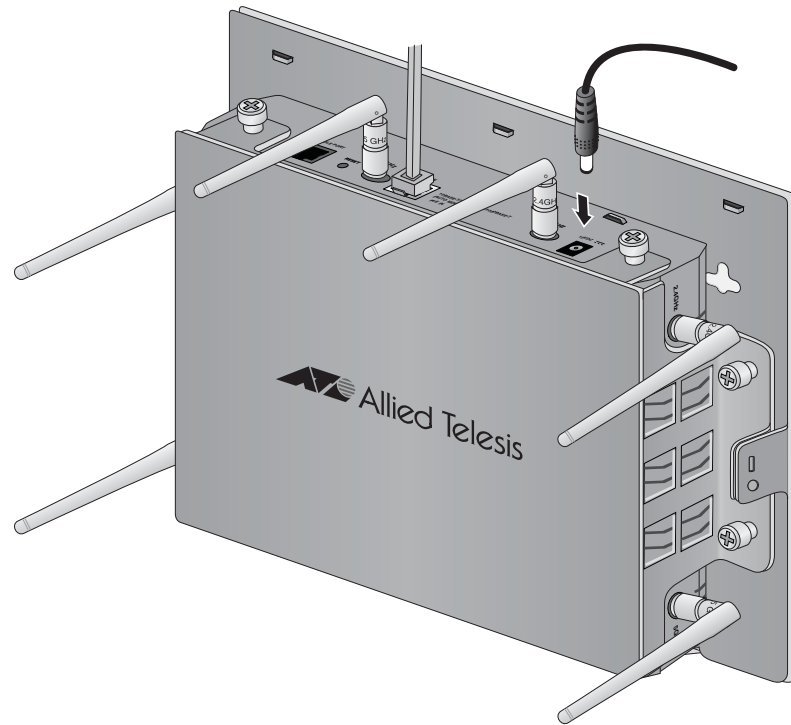

Figure 26. Attaching the DC Power Cable
11. Connect the DC cable on the AC/DC adapter to the 12VDC connector on the access point. Refer to Figure 26 on page 47.